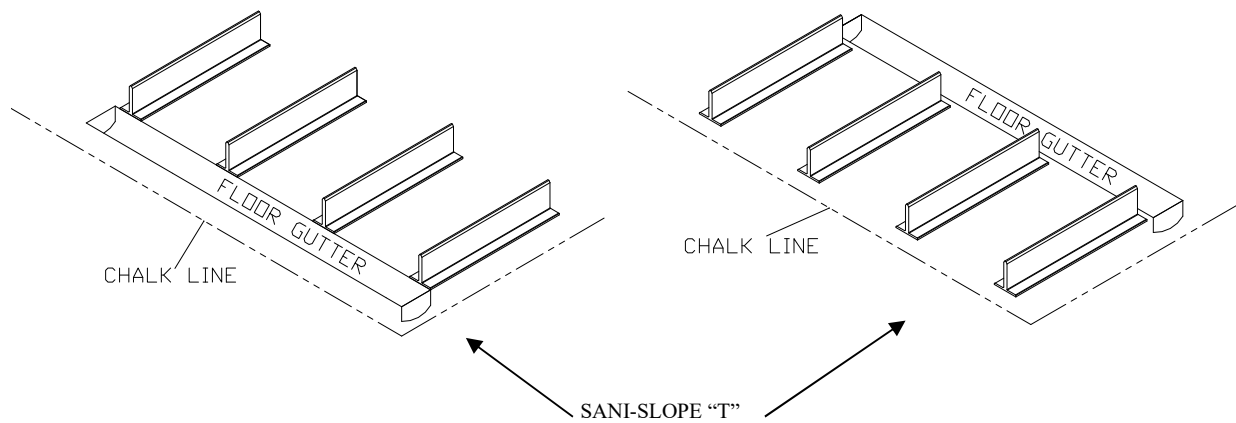

Figure 6
4. Layout the "Sanislope T" sections approximately where they will lie on the final floor plan as shown in Figure 6. **Note: be sure that the end blocker that was installed in step 2 is at the outside or gate end of the run.** **Optional:** This system is designed to function equally well whether it is fastened to the floor or not. If you do not want to fasten it the floor skip to step 6; otherwise proceed with step 5.